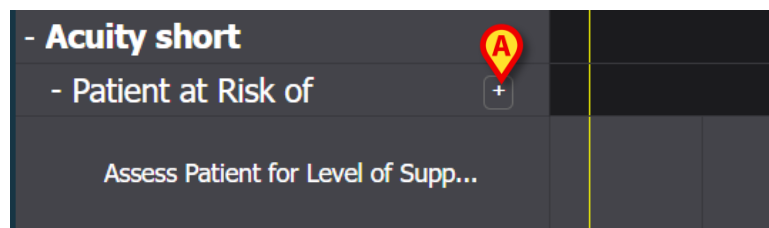

Fig 76
- 1) Click the  icon placed alongside a problem on the activities list to display the PRN activities for that specific problem (Fig 76 **A**).